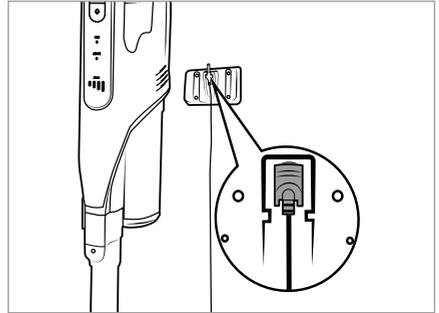

Fig. 6
- ◆ Place the vacuum cleaner in the wall bracket **18** from above so that the barrel plug **11** slips into the charging socket **3** on the bottom of the appliance. The battery indicator **26** starts flashing and the charging process starts (see Fig. 6 and 7).